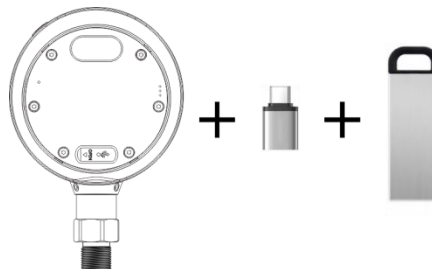

Figure 20 Connect to USB disk through the adapter
(1) Connect to TYPE-A USB2.0 USB disk through the adapter, shown in Figure 20.